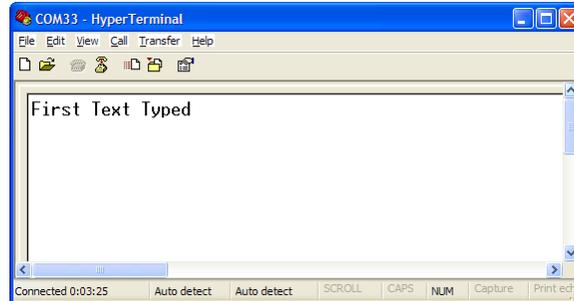

Figure 4-3. Text Typed in First HyperTerminal Window
1. Type some text in one of the HyperTerminal as shown in Figure 4-3.